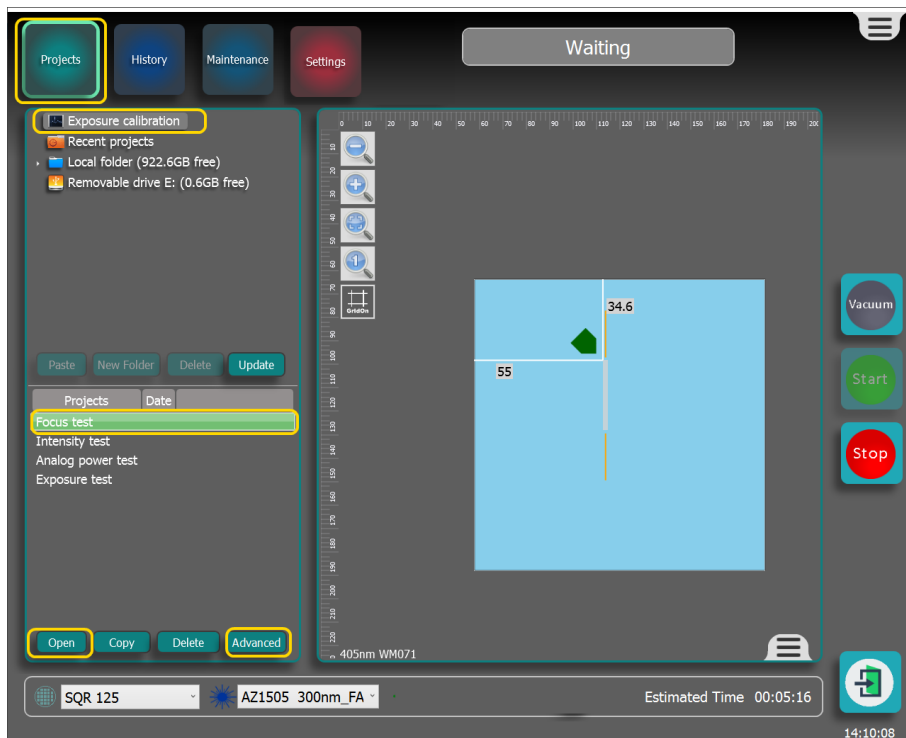

Figure 3-59 Preparing the Focus Test
2. To start the Focus offset test, select **Projects**, see Figure 3-59.